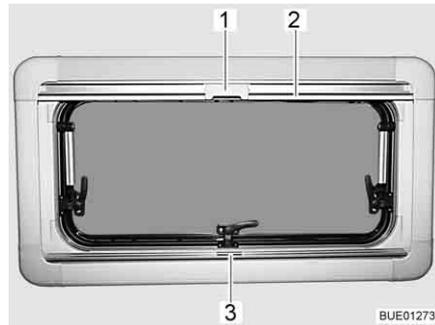

Fig. 62 Hinged window
- Grip the Roman shade using the holding bar (Fig. 62,3), pull it from the bottom to the top and then release it at the desired height. The Roman shade will stay at this height.
- Pull the insect screen down using the holding bar (Fig. 62,2), until it touches the holding bar of the Roman shade (Fig. 62,3).
- Clip the catch (Fig. 62,1) on the insect screen into the handle of the Roman shade.
- Push the catch (Fig. 62,1) on the insect screen inwards.
- Move the insect screen back slowly on the holding bar (Fig. 62,2).